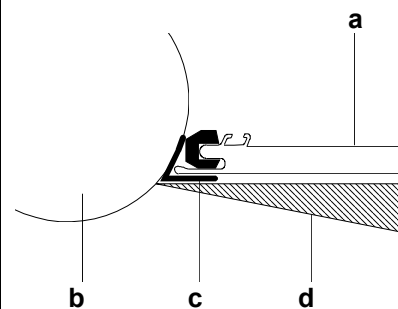

fig 2
- The bow sections have an upside and a downside. The upside is identified by a label representing the sun (11).
2. **Insert** the bow section (1) into the angle at the bow.
3. **Insert** keel element (7) under element (1) until stop blocks get fixed [fig.2]
4. **fit** element (8) and (9) of the keel as an apex (in a tent-like position) [fig.2]